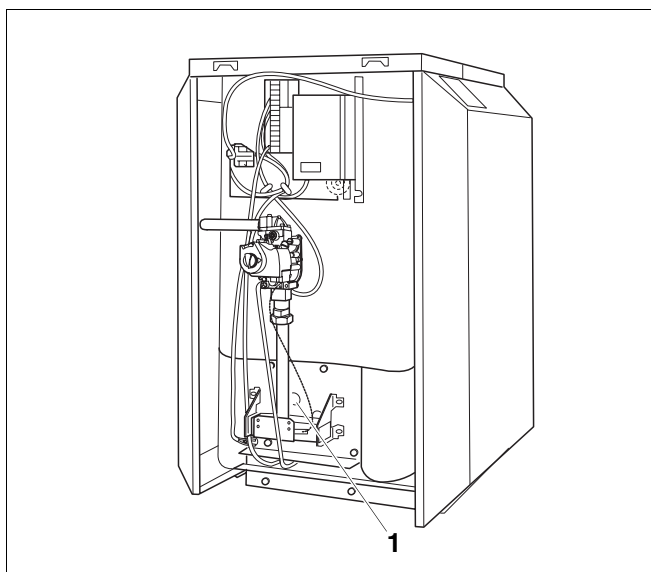
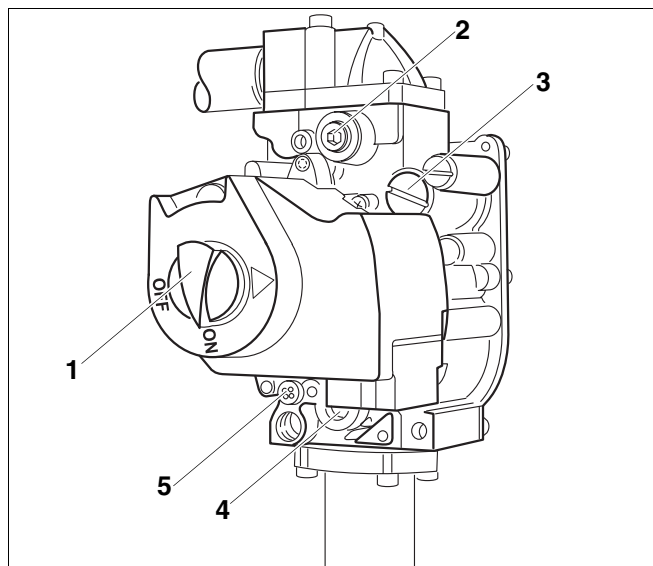

Fig. 8 G124X II boiler
Fig. 9 G124X II gas valve
13. Check manifold pressure. The manifold pressure must be set in accordance with the values in → Tab. 3. To set the manifold pressure the cover (→ Fig. 9) on the gas valve must be removed. Turn the adjustment screw clockwise to increase the pressure and counterclockwise to reduce the pressure. This setting must be adjusted while the boiler is operating.
14. Record the set value in the commissioning protocol of the installation and maintenance instructions and screw the safety screw (→ Fig. 9, page 11) into the gas valve again.
15. Observe ignition flame through the sight glass (→ Fig. 8, page 10) in the burner housing.
The adjustment screw is behind the ignition gas pressure adjustment safety screw (→ Fig. 9, page 11).
18. Remove safety screw for igniter nozzle pressure setting (→ Fig. 9, page 11). Turn the inner adjustment screw clockwise to reduce the ignition flame and counterclockwise to enlarge the ignition flame.
19. After adjustment tighten the ignition gas pressure adjustment safety screw (→ Fig. 9, page 11) again.
20. Observe main burner flame through the sight glass (→ Fig. 8, page 10) in the burner housing. The flame must have a steady and fixed contour and generally has a bluish color. If the main burner flame meets the requirements, proceed with step 21. If the main burner flame is too weak or is yellow or goes out, turn the ON/OFF switch (→ Fig. 9, page 11) on the gas fitting clockwise to OFF. Close the gas valve and disconnect the heating system from the power supply and contact the customer service technician or the gas company.